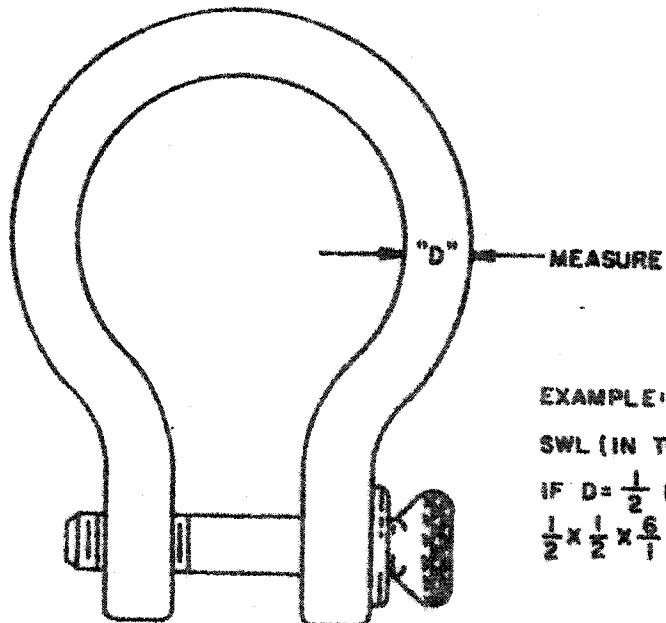

Figure 8.28. Shackle Safe Working Load
2. Shackles are not proof loaded (except as a sling assembly) by the Maintenance Department and one should calculate the approximate safe working load by using the formula ( $SWL = D^2 \times 6$ ) prior to selection and use of the shackle (see Figure 8.28).